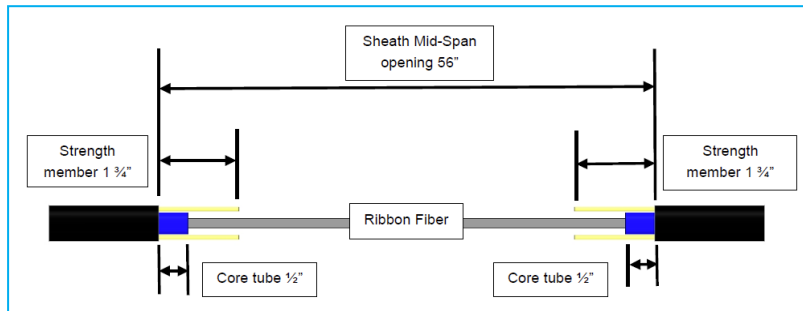

Figure 3
5.1.2.1 Remove **56"** of outer sheath. See Figure 3.
5.1.2.2 Cut strength member(s) **1 3/4"** from end of sheath openings. See Figure 3.
5.1.2.3 Remove core tube from ribbon leaving **1/2"** core tube measured from the cable sheath opening. See Figure 3.